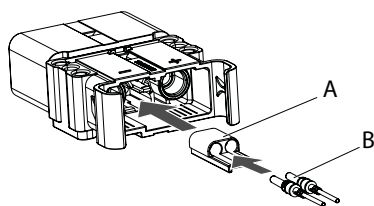

Fig. 17:
1. Push the pilot contact adapter (Fig. 17/A) into the plug housing until it audibly clicks into place.
3. Push the pilot contacts (Fig. 17/B) with the crimped wires into the contact chambers of the pilot contact adapter as far as they will go until the retaining clip clicks into place.